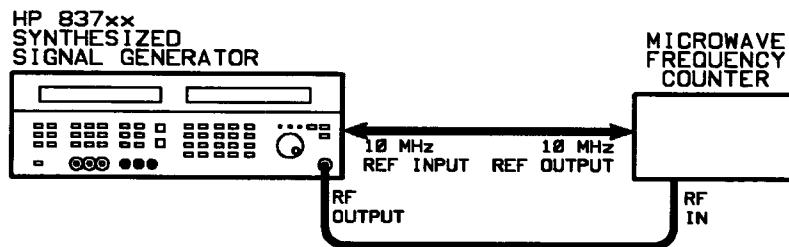

Figure 3-2. Frequency Range and Resolution Test Setup
1. Set up the equipment as shown in Figure 3-2.